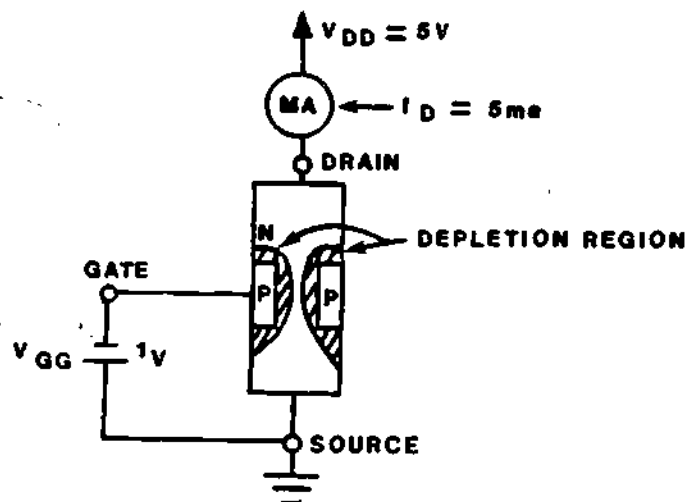

Figure 8
9. Figure 8 again shows what happens to the current flow in a JFET under reverse bias conditions.